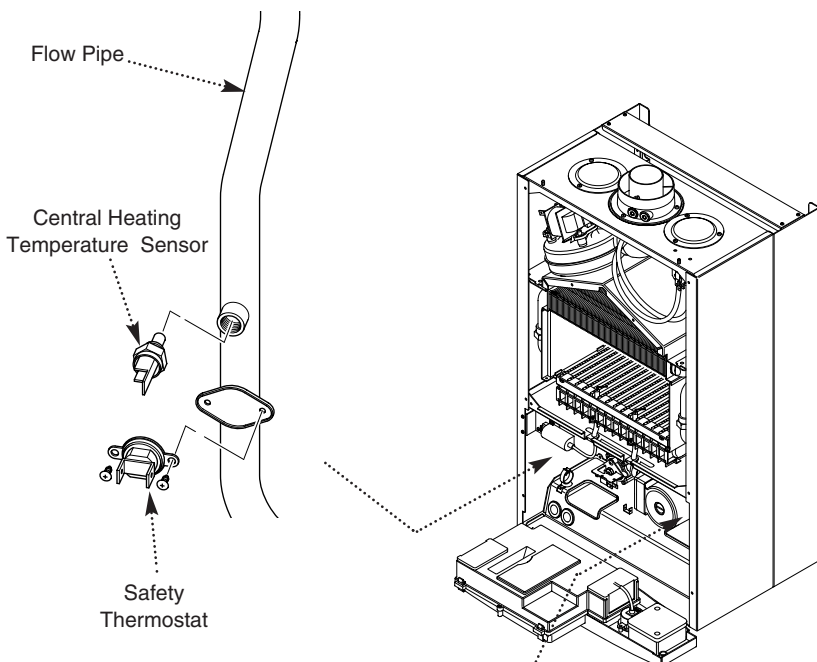

Fig. 52
12.9 Central Heating Temperature Sensor (Fig. 52)
12.10 Safety Thermostat (Fig. 52)